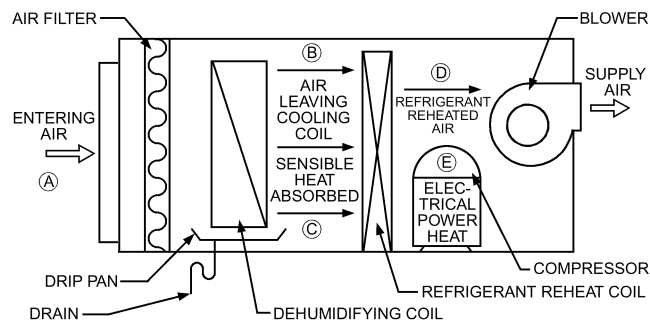

Fig. 1 Dehumidification Process Points
p. 25.1, Fig. 1. Point E was omitted. The correct figure appears below.